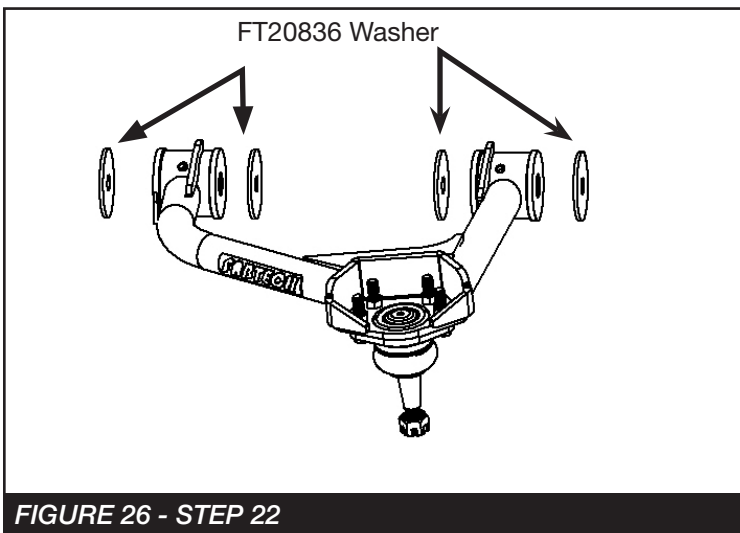

FIGURE 26 - STEP 22
22. Install the FT20833 (Driver) & FT20834 (Pass) upper control arms using the factory bolts. **NOTE: When installing the arms, install a FT20836 (washer) on both sides of the bushings. Do not tighten at this time. Final locktite/ torque procedure will be done at step 26. SEE FIGURE 26**